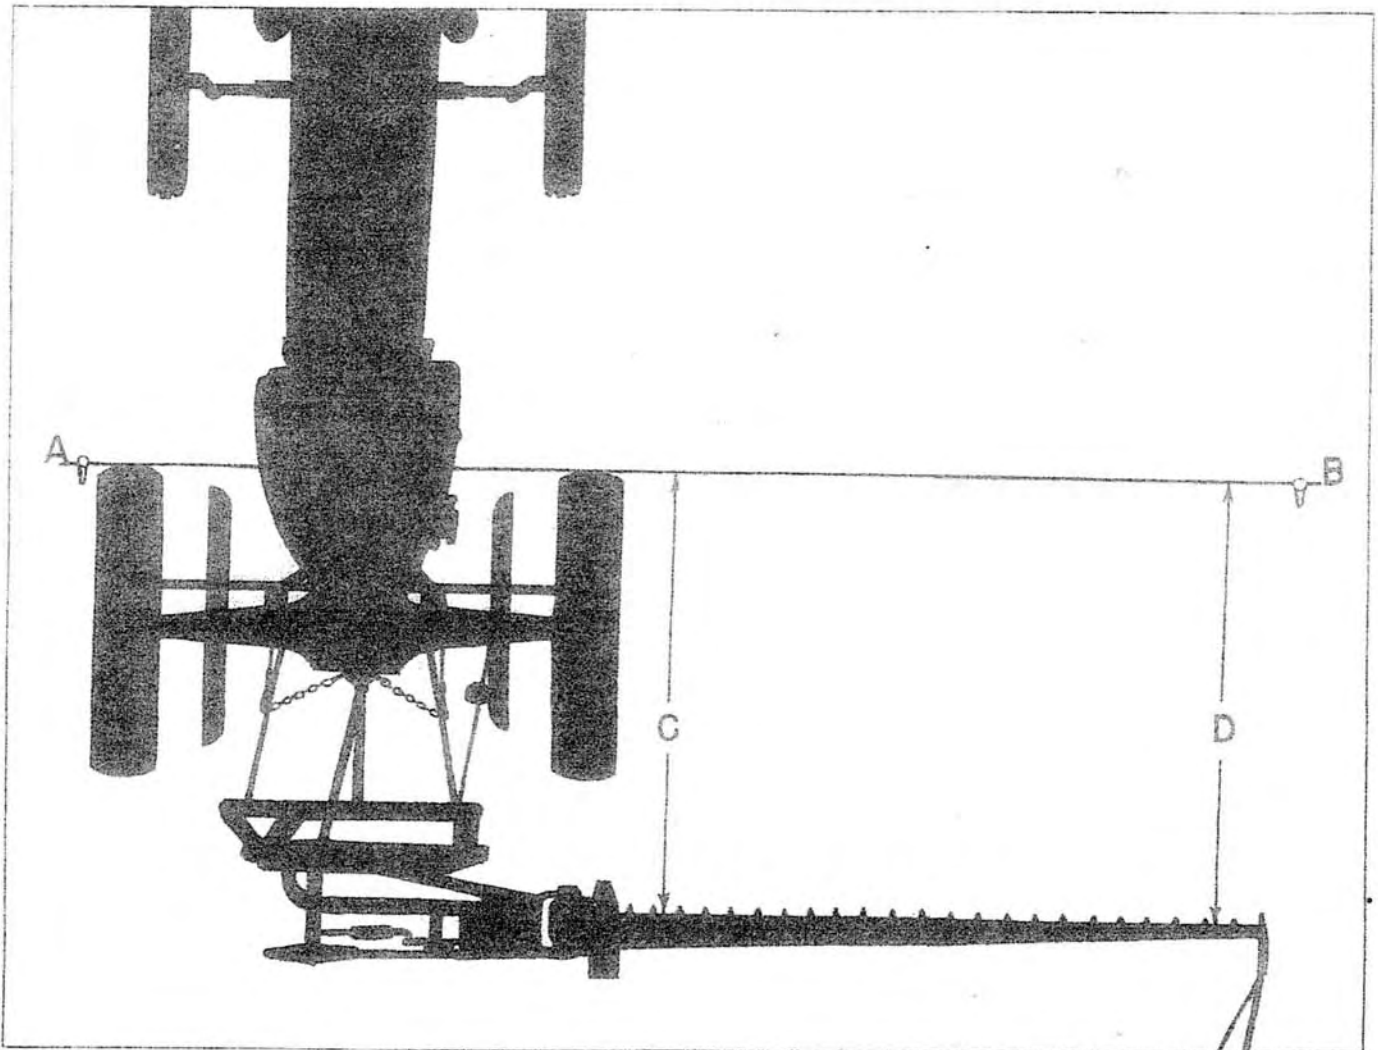

Fig. 32 - Checking Cutter Bar Lead
2. Drive two stakes into the ground to the left and right of the tractor, as illustrated in the diagram (Fig. 32).